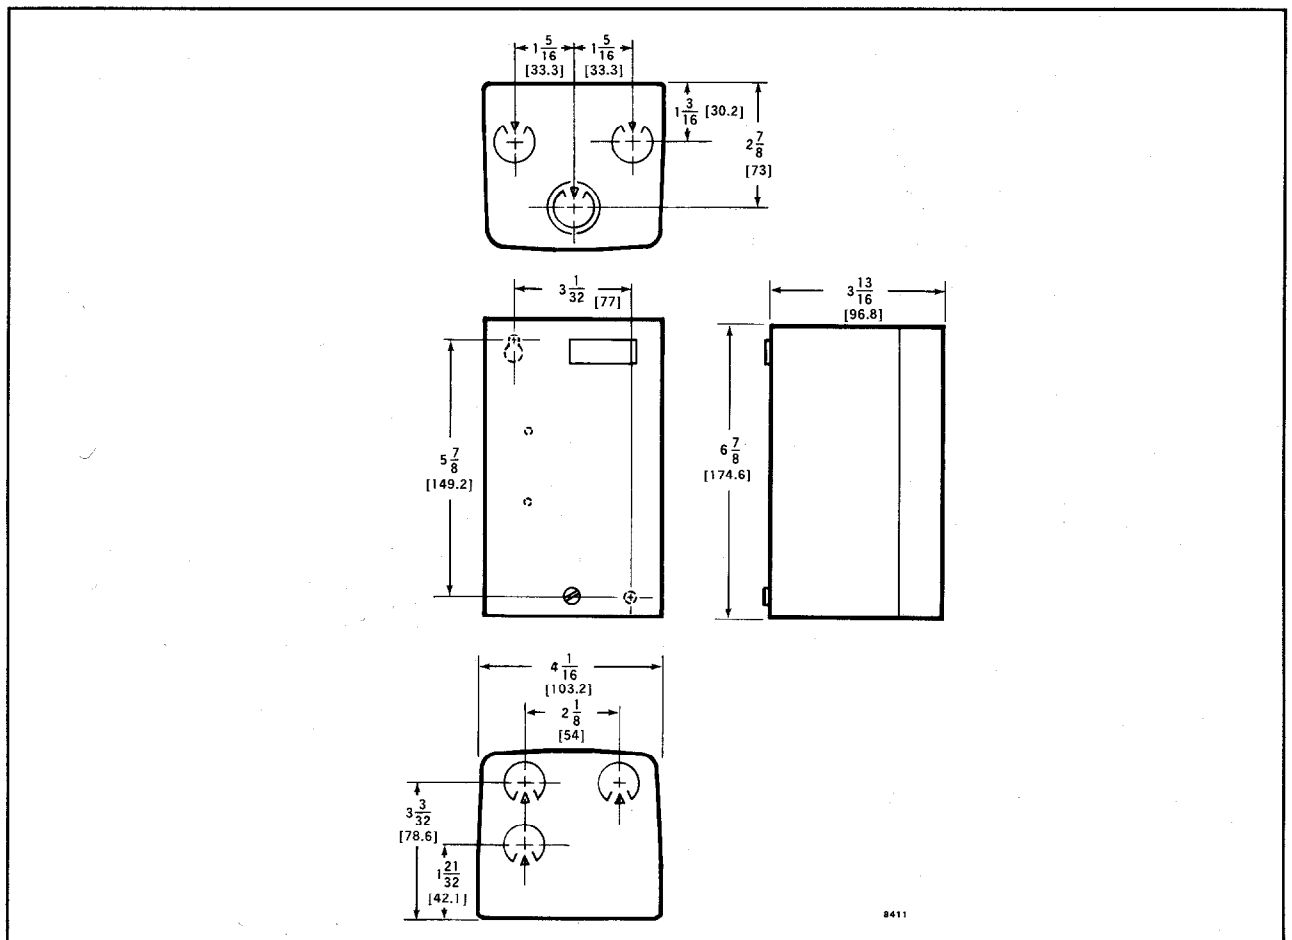

FIG. 4—DIMENSIONS OF ACCESSORY ENCLOSURE, PART NO. 138552B.
**MOUNTING MEANS:** Two screws (up to No. 10 size) through holes in base or may be mounted on shear formed panel. See Fig. 4.
3. 138552B Enclosure. See Fig. 4.